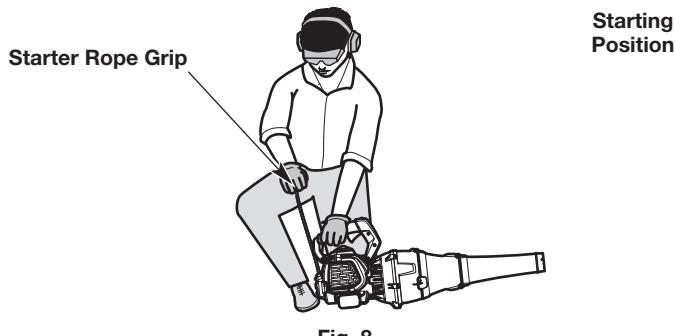

Fig. 8
WARNING: Avoid accidentally starting the unit. To avoid serious injury, the operator and the unit must be in a stable position when pulling the starter rope (Fig. 8).
4. Crouch in the starting position (Fig. 8).